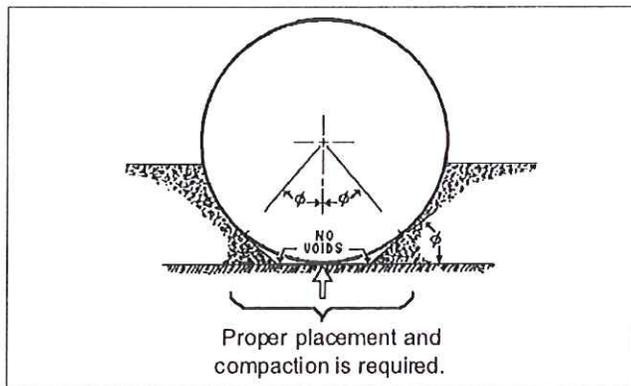

FIGURE 1-1
1.4.2. Compaction — The backfill must be placed and compacted completely under the tank haunches and dome area. Voids must be eliminated by pushing backfill into the spaces. The natural angle of repose, (ϕ), is not acceptable. This is the most critical area of tank support and must receive special attention. (See FIGURE 1-1.)